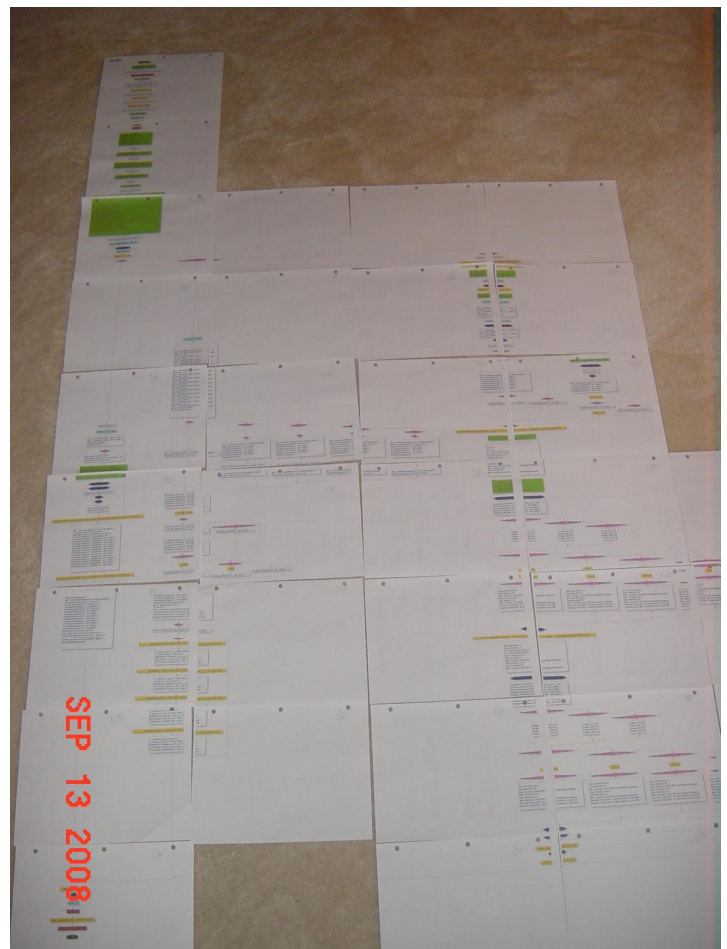

Fig. 11 Several pages pasted on a large sheet of paper
- (3) Print the generated flowchart on standard A4 paper and then paste them on a large A0 sized paper (Fig. 11)